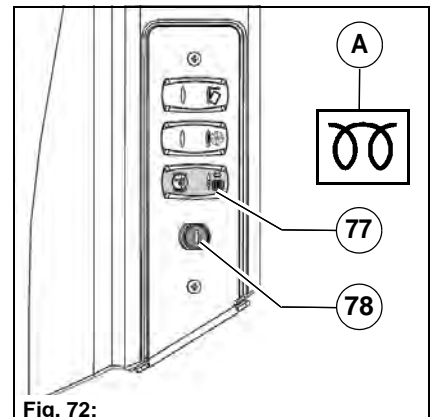

Fig. 72:
- If the engine oil pressure warning symbol **Fig. 72-A** in the multifunctional display lights up with the engine running, there is a risk of engine damage! Stop the vehicle in the safe area. Turn the engine off immediately and check the oil level. Have the cause of the inadequate engine oil pressure removed.
- Position 1: Preheat the engine until the control light **Fig. 72-A** goes out.